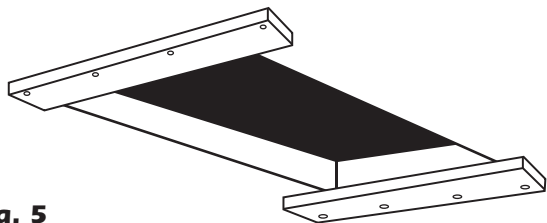

Fig. 5
Step 3- On the ceiling side of the rough opening, nail two 1" x 4" temporary slats to hold the stairway in the rough opening. (Temporary Boards Not Supplied By American Stairway.) Each slat should extend beyond the ends of the opening and extend approximately 1/2" into the rough opening to form a ledge. The slats should be nailed securely enough to hold the weight of the stairway (See Fig. 5).